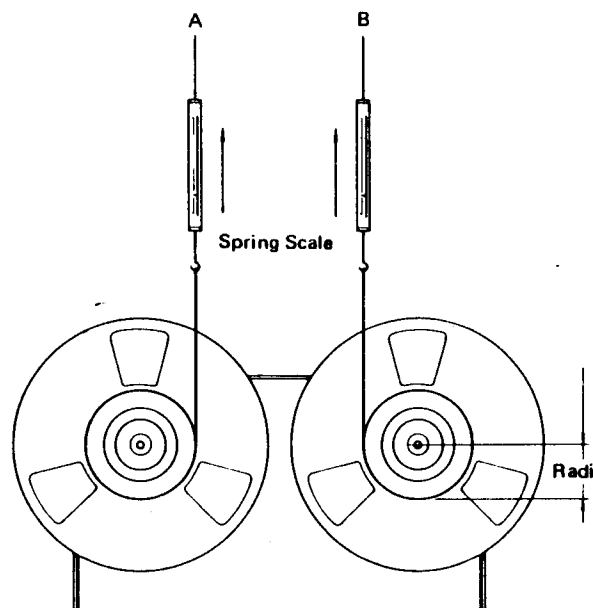

FIG. 11. BRAKE TORQUE MEASUREMENT
1. Mount an empty 10-1/2" reel onto either reel table and attach a spring scale to the reel with a string. See Fig. 11.
2. Smoothly pull the scale away from the reel under test and note the torque value when the reading on the scale is steady. Take two measurements A and B shown in Fig. 11. The proper torque values are shown below the figure.